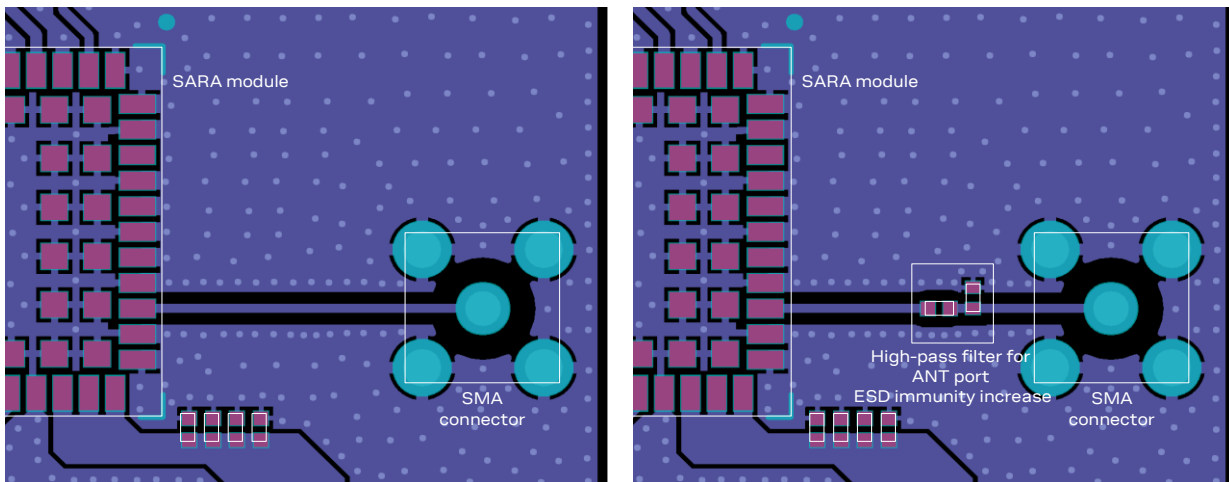

Figure 40: Suggested circuit and layout for antenna RF circuit on application board, if antenna detection is not required
- Add ground vias around transmission line, as described in Figure 40.
- Ensure a solid metal connection of the adjacent metal layer on the PCB stack-up to main ground layer, providing enough on the adjacent metal layer, as described in Figure 40.
Two examples of correct RF circuit design are illustrated in Figure 40, where the antenna detection circuit is not implemented (if the antenna detection function is required by the application, follow the guidelines for circuit and layout implementation detailed in section 2.4.2):
- SMA Pin-Through-Hole connectors require ground keep-out (clearance, a void area) on all the layers around the central pin up to annular pads of the four GND posts, as shown in Figure 40.
If the antenna detection function is not required by the customer application, the **ANT_DET** pin can be left unconnected and the **ANT** pin can be directly connected to the antenna connector by means of a 50 Ω transmission line as described in Figure 40.